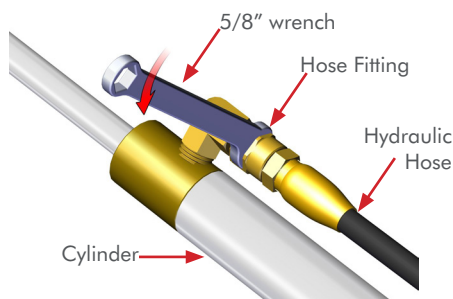

Figure 1
STEP 1 Cut the zip tie securing the **UP Hose** to the **Cylinder** and loosen **Hose Fitting** with a **5/8" wrench**. **FIG 1**